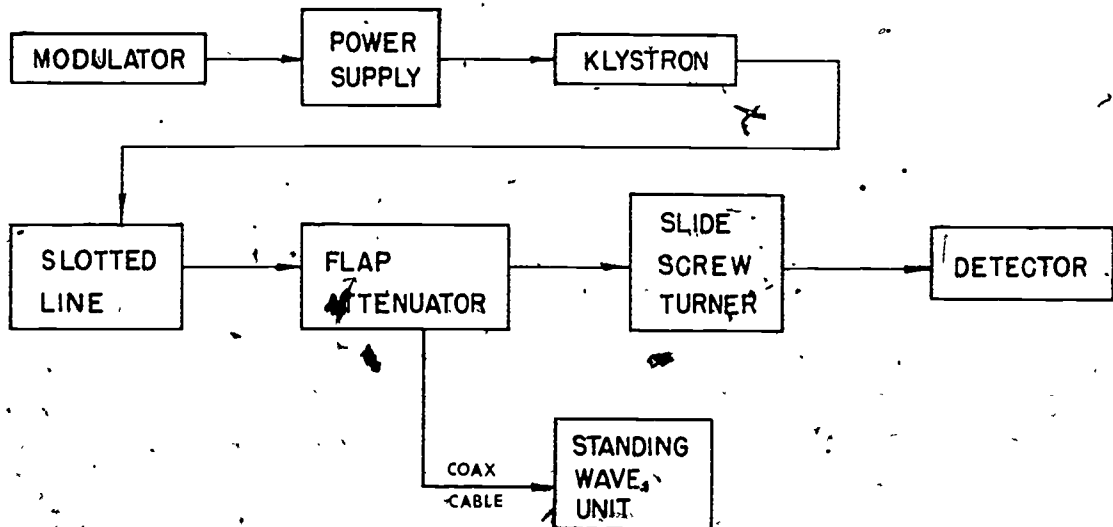

Fig. 3--Insertion Loss Measurements
7. Change the equipment to the connections shown in Fig. 3.